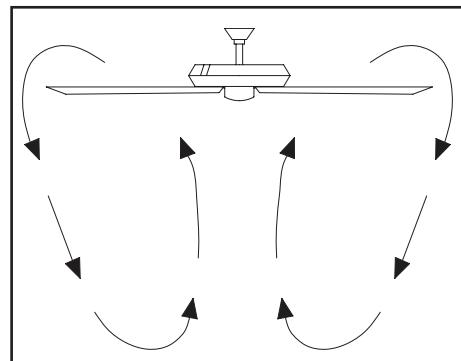

Figure 10
**Cool weather** - (Reverse) An upward airflow moves warm air off the ceiling area (Figure 10). This allows you to set your heating unit on a lower setting without affecting your comfort.